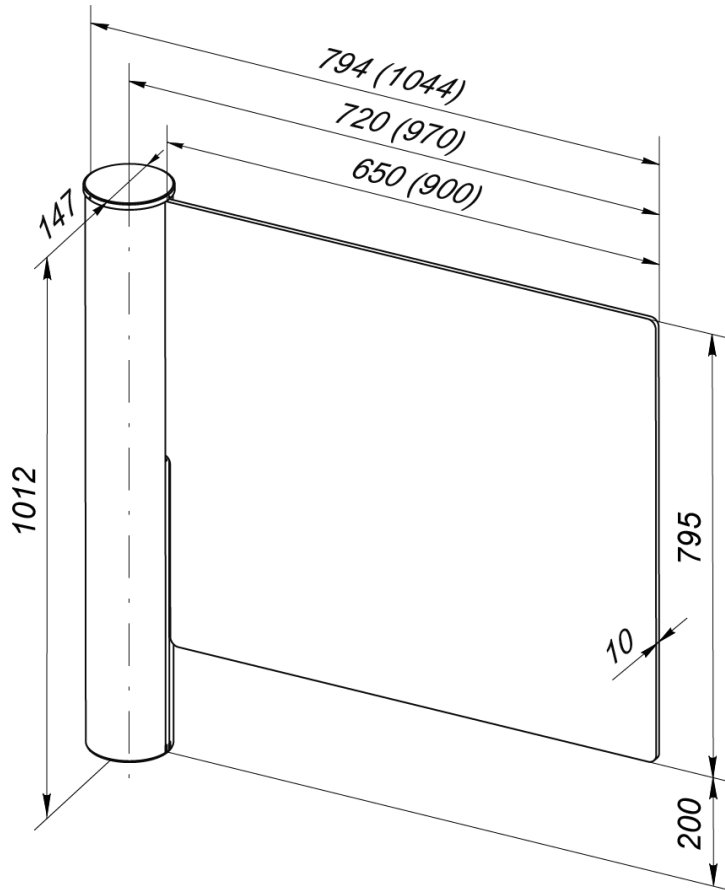

Figure 1. Overall dimensions of the swing gate
- The swing gate can be supplied with two types of the swing panel with different lengths: 650 mm or 900 mm. Overall dimensions of the gate are shown in Fig. 1.